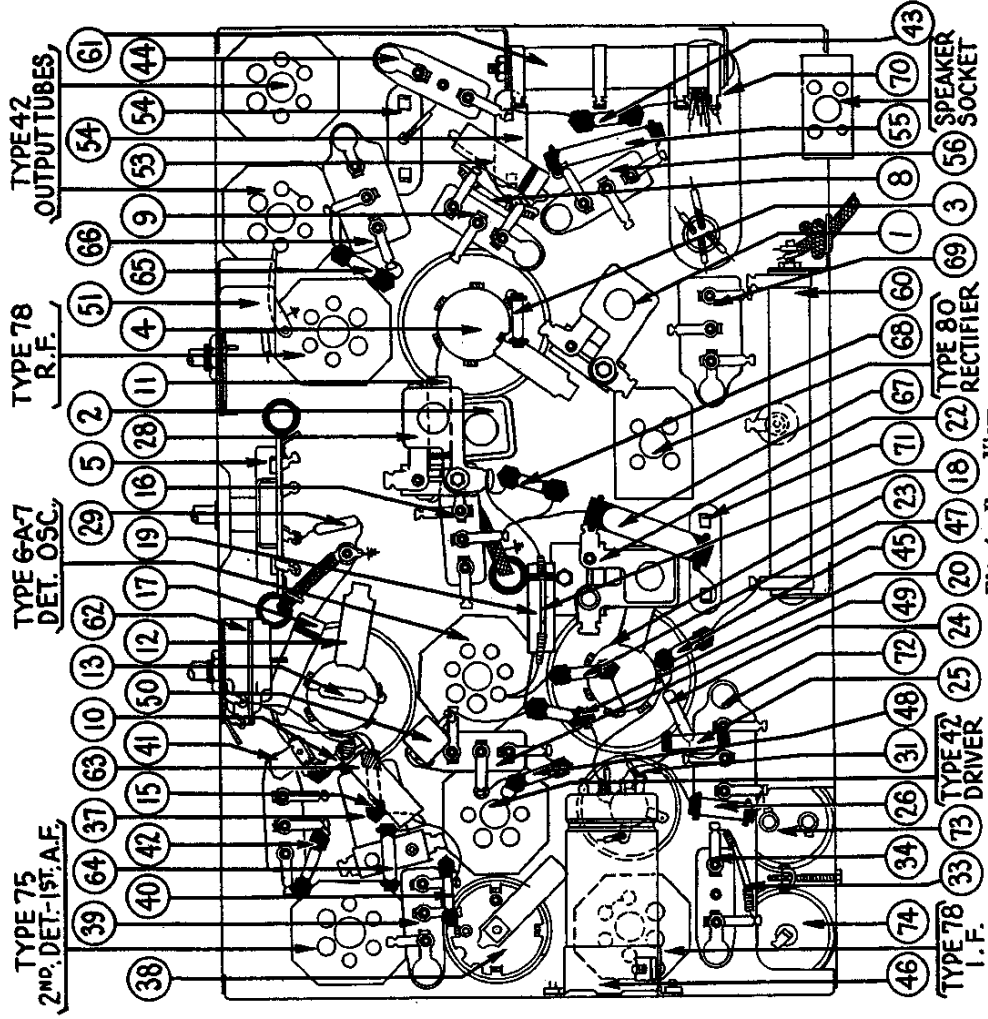

Fig. 4. Base View
*See Note below Fig. 4. Note: Part 37 is as shown above only in early production. In later production this part is incorporated as part of 35, not visible from below.